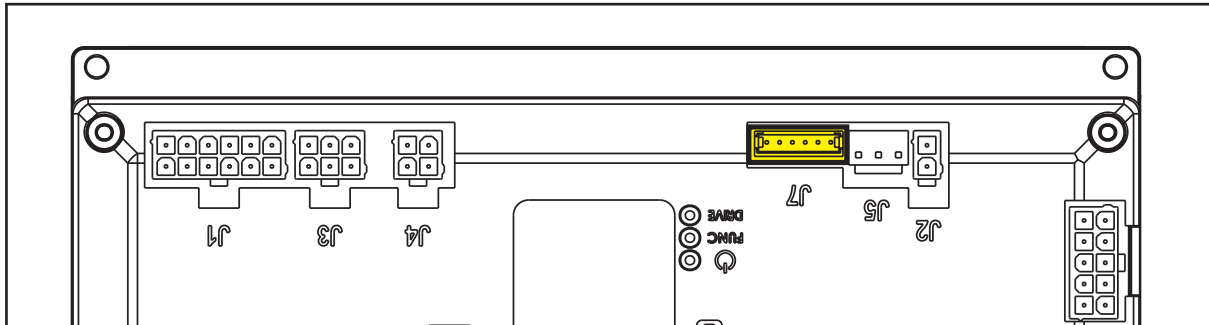

Figure 29
**(Figure 29) J7: TYCO MODU II type, 6-ways vertical**